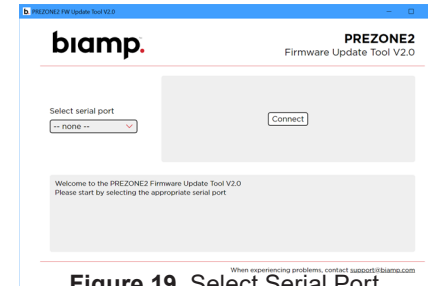

Figure 19. Select Serial Port
6. Choose the serial port that the USB to RS232 is connected to as shown in Figure 19.